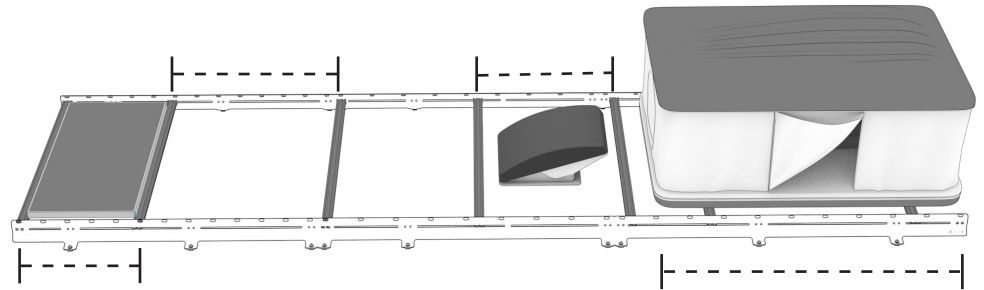

FIG 6
**3.1 Layout Crossbar Locations:** Position the crossbars in your desired locations, loosely threading in the **1/4-20" Flange Head Screws** to hold in place (**FIG 6**).